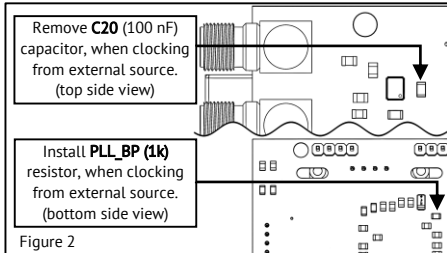

Figure 2
- From an external source, when using it, **make sure that capacitor C20 (100 nF) is removed** (Figure 2), and **resistor PLL_BP 1 kOhm is installed**. To achieve the best results, refer to Table 1.
When using an **external clock source**, the signal is fed to the SMA connector labeled "**REF CLK IN**", when using it, **make sure that capacitor C20 is removed** (Figure 2), and **resistor PLL_BP 1 kOhm is installed**. To achieve the best results, refer to Table 1.